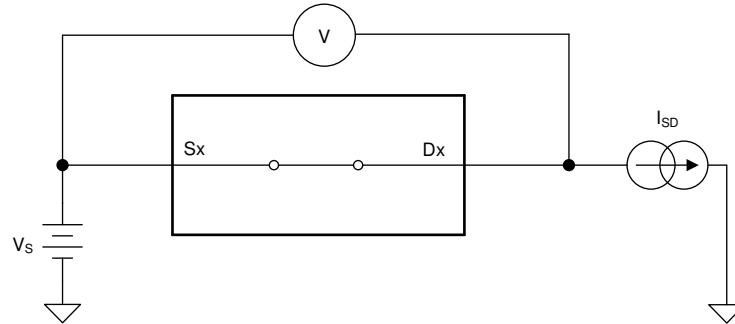

Figure 7-1. On-Resistance Measurement Setup
The on-resistance of a device is the ohmic resistance between the source (Sx) and drain (Dx) pins of the device. The on-resistance varies with input voltage and supply voltage. The symbol R_{ON} is used to denote on-resistance. The measurement setup used to measure R_{ON} is shown in Figure 7-1. Voltage (V) and current (I_{SD}) are measured using this setup, and R_{ON} is computed with $R_{ON} = V / I_{SD}$ as shown in the following figure.